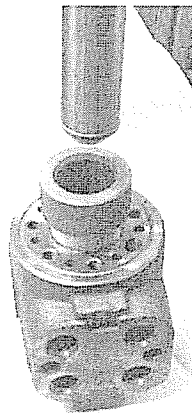

Figure 18
- 11. Align plunger with sleeve (figure 18).